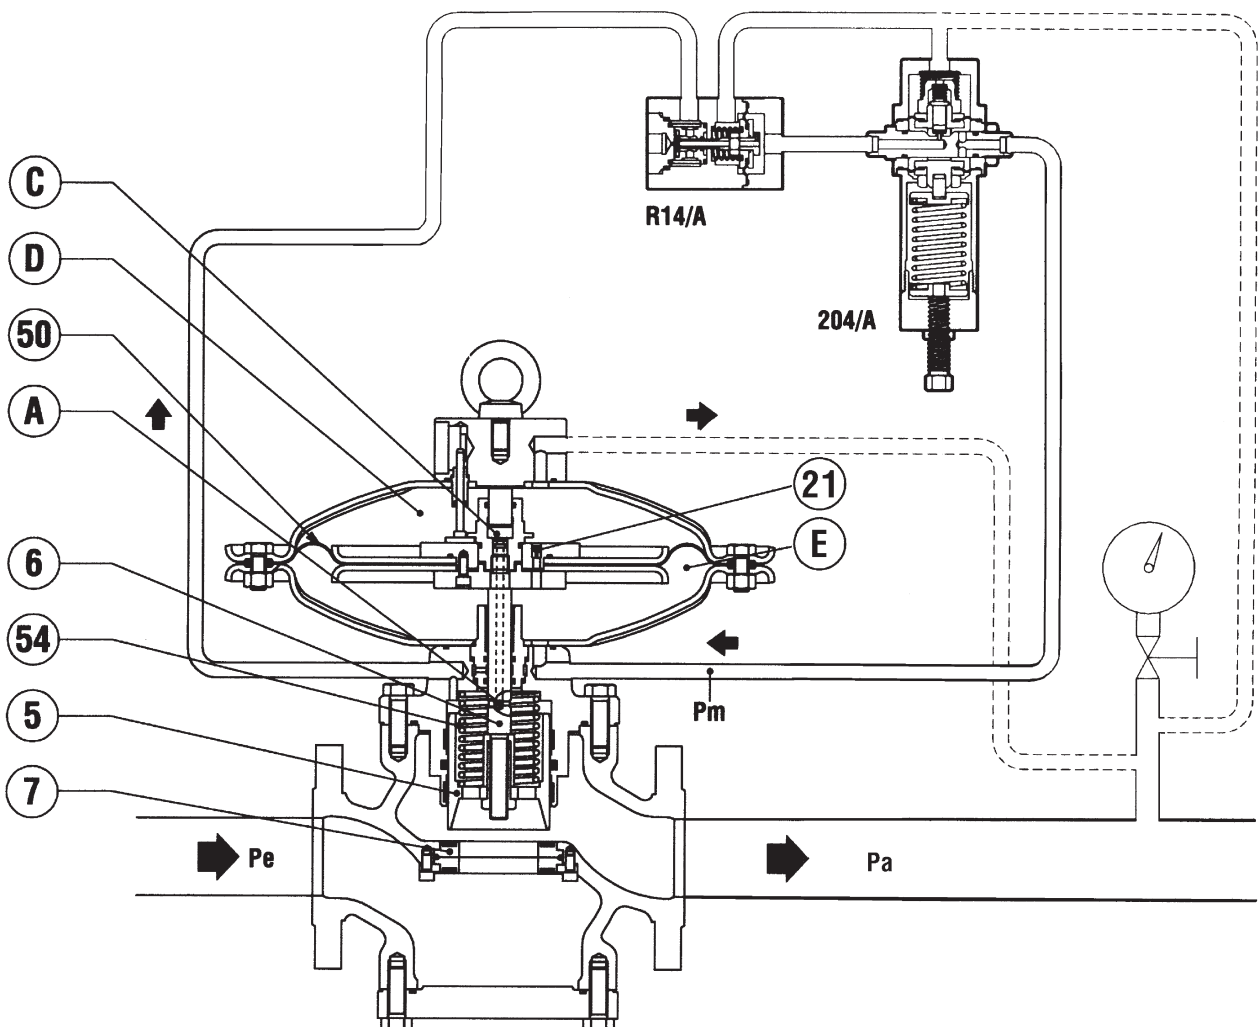

Fig. 3
1.2.2 REGULATOR WITH PILOT 204/A+R14/A (fig. 3)
In the absence of pressure, the obturator 5 is maintained in the closed position by the spring 54, and rests on the reinforced gasket 7 (fig. 3). The upstream pressure, even if variable, does not change this position as the obturator is completely balanced and is therefore subject to equal pressures, even if the sections are different.
The set-point can be changed by turning the adjustment screw 10; clockwise rotation increases P_m and therefore the regulated pressure, P_a ; the opposite occurs when the ring is turned anticlockwise. If, for example, the downstream pressure, P_a , drops during operation (because of an increase in the requested flow rate or a drop in the upstream pressure) an imbalance occurs in the mobile assembly 15 of the pilot, which is displaced to increase the opening of the obturator 17. As a result, the motorisation pressure value, P_m , increases and, by acting in the chamber E under the diaphragm 50 (fig. 3), causes the obturator 5 to move upwards and therefore an increase in the opening of the regulator until the set-point of the regulated pressure is restored.